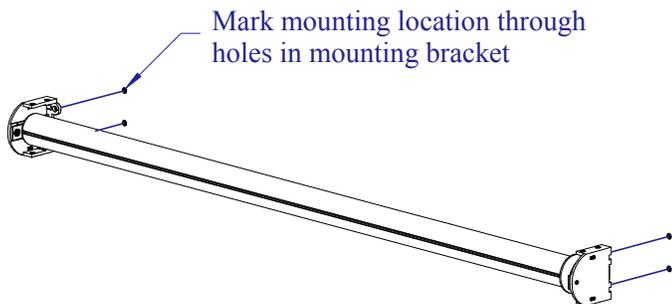

Fig. 1-1
- Determine the desired location for the curtain. Hold the curtain in place and mark the location through the holes in the mounting brackets as shown in Fig. 1-1. Be sure to keep the curtain level when marking.